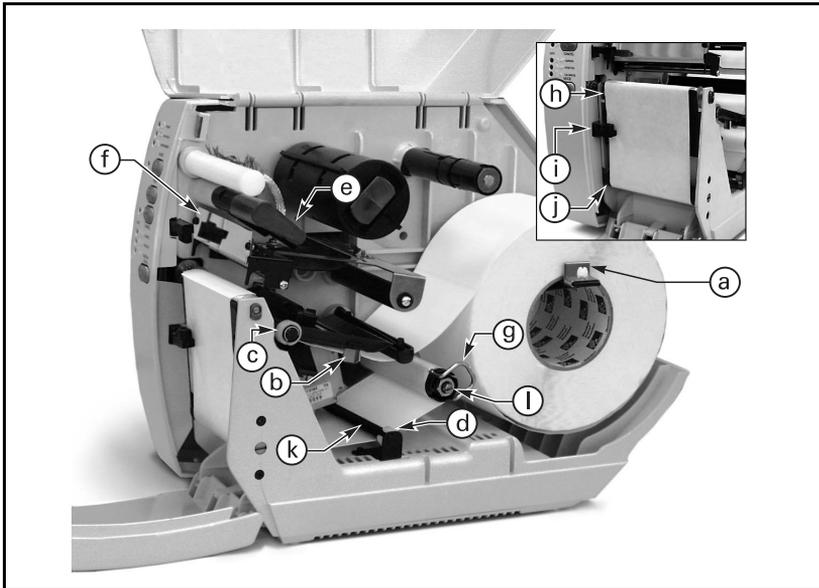

Figure 9. Loading — Peel-Off Mode
Refer to Figure 9 and follow the procedure below.
4. Thread the media through the printhead as shown in Figure 9.